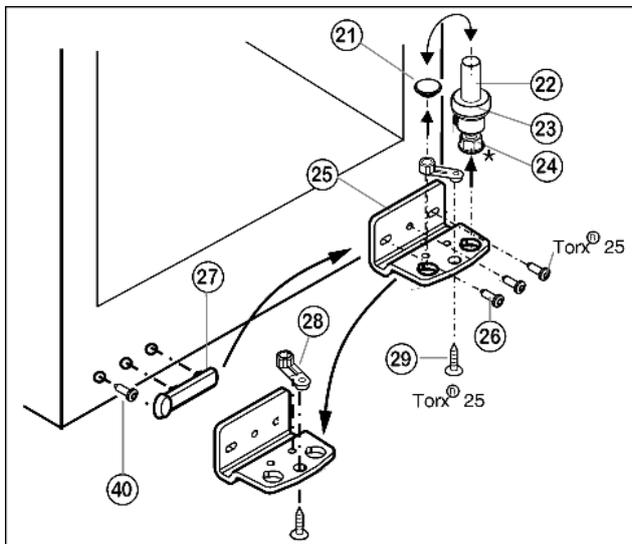
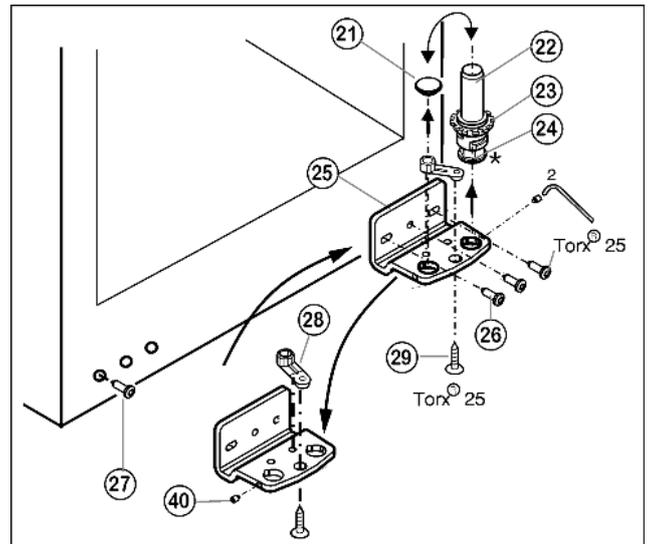

Fig. 5
Fig. 6
- ▶ Lift out the bearing pin Fig. 5 (22) together with washer Fig. 5 (23) and adjustable-height foot* Fig. 5 (24).
- ▶ Lift off the stopper Fig. 5 (21).
- ▶ Unscrew Fig. 5 (26) the turn hinge Fig. 5 (25).
- ▶ Unscrew Fig. 5 (29) the bearing element Fig. 5 (28), transfer it to the opposite location hole of the turn hinge and screw it firmly into place.
- ▶ Carefully lift off the cover on the handle side Fig. 5 (27), undo the screw Fig. 6 (40) and transfer both to the opposite side.
- ▶ Screw the turn hinge Fig. 5 (25) firmly into place on the new hinge side, possibly using a cordless screwdriver (with 4 Nm).
- ▶ Re-insert the stopper Fig. 5 (21) into the other hole.
- ▶ Re-insert the bearing pin Fig. 5 (22) together with the washer and adjustable-height foot*. In so doing, pay attention that the locating lug points backwards
- ▶ Using the accompanying Allen key, unscrew the threaded pin Fig. 6 (40) by about 1 turn.
- ▶ Turn and lift out the bearing pin Fig. 6 (22) together with the washer Fig. 6 (23) and adjustable-height foot* Fig. 6 (24).
- ▶ Lift out the stopper Fig. 6 (21).
- ▶ Unscrew Fig. 6 (26) the turn hinge Fig. 6 (25).
- ▶ Fully unscrew the threaded pin Fig. 6 (40) and screw it in on the opposite side, at the turn hinge, until it is flush outside with the turn hinge.
- ▶ Unscrew Fig. 6 (29) the bearing element Fig. 6 (28) transfer it to the opposite location hole of the turn hinge and screw it firmly into place.
- ▶ Re-insert the stopper Fig. 6 (21) into the other hole.
- ▶ Undo the screw Fig. 6 (27) and transfer it to the opposite side.
- ▶ Screw the turn hinge Fig. 6 (25) firmly into place on the new hinge side, possibly using a cordless screwdriver (with 4 Nm).
- ▶ Re-insert the bearing pin Fig. 6 (22) together with the washer and adjustable-height foot*.
- ▶ Tighten the threaded pin Fig. 6 (40).
- ▶ Place the door from above onto the lower bearing pin *Fig. 6 (22)*.
- ▶ Align the door to the appliance housing by way of the two oblong holes in the bottom turn hinge *Fig. 6 (25)*. To do so, unscrew the middle screw.